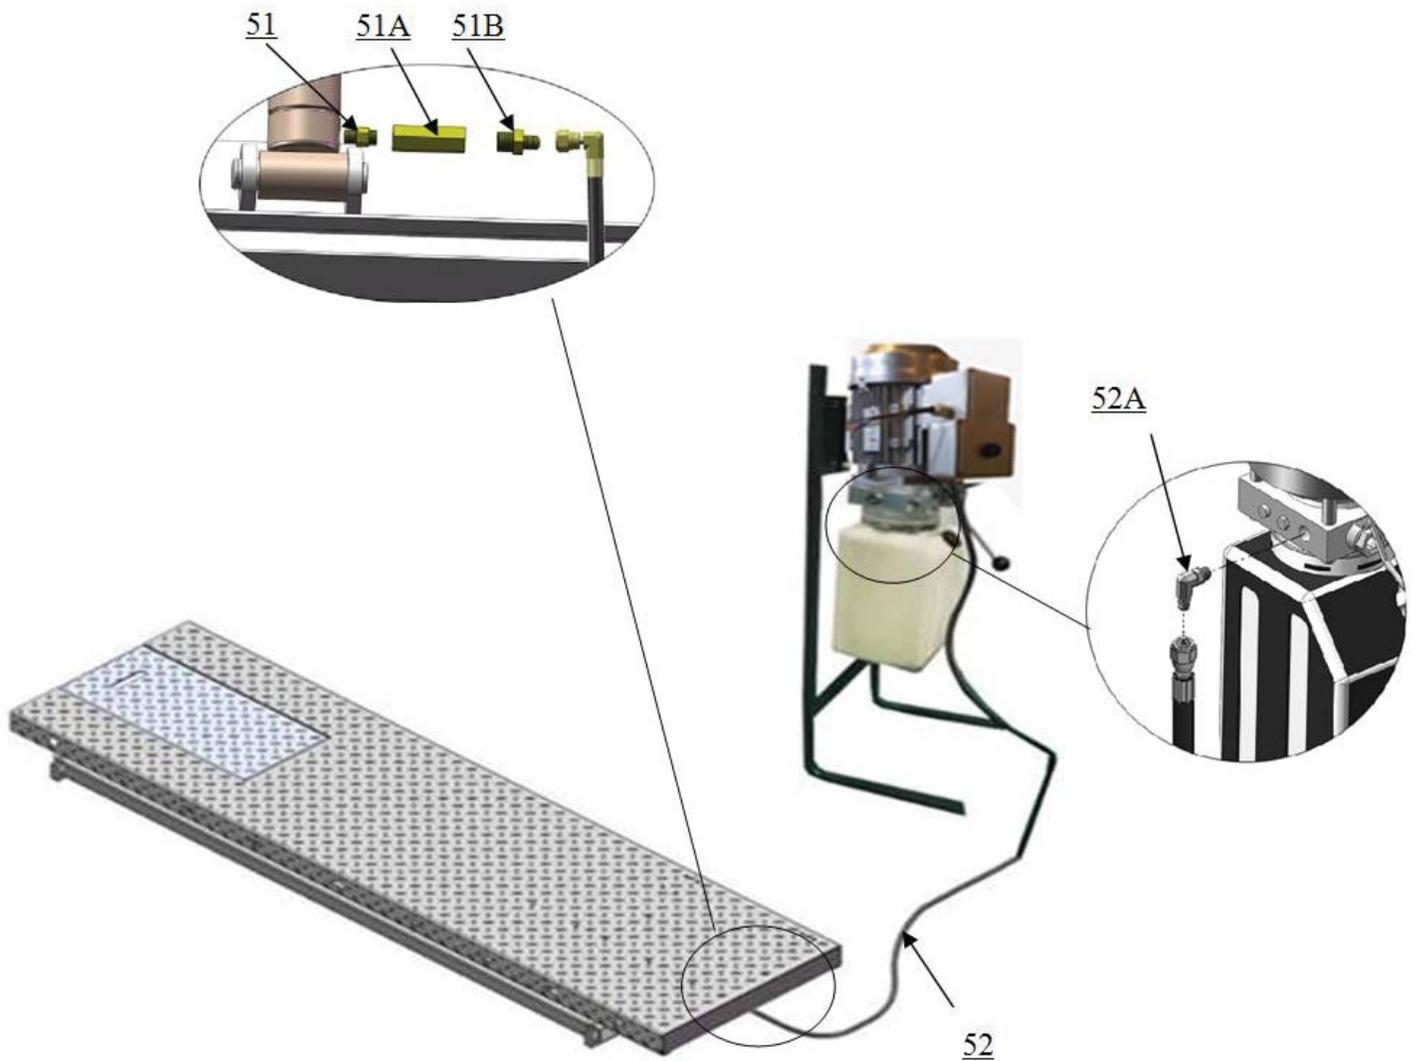

Fig. 6
B. Put the lift and control cabinet in good order and connect the oil hose. (See Fig. 6 & 7)